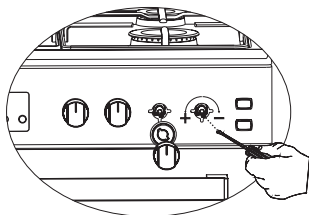

Figure 6
5. For the last control, bring the burner both to higt-flame and reduced positions and check whether the flame is on or off. Depending on the type of gas tap used in your appliance the adjustment screw position may vary. To adjust your oven acc. to the gas type, make the adjustment for reduced flame carefully by turning with a small screwdriver as shown below on the screw in the middle of the gas cocks as well as nozzle changes. (figure 6 and 7)